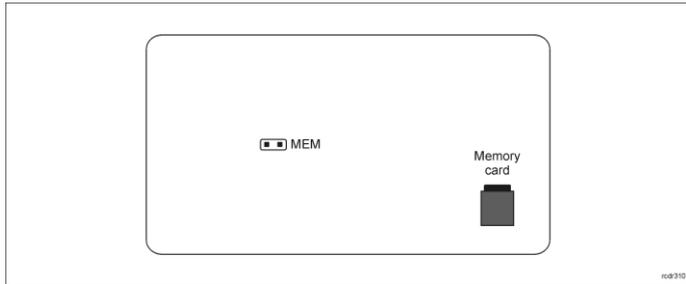

Fig. 3 Service contact and memory card
Note: Remote configuration of device from VISO v2 software is possible only if jumper is placed on MEM contacts (fig. 3). If the jumper is removed, then such configuration is blocked. In case of factory new device, jumper is placed on MEM contacts.
In RACS 5 v2 system, when connected to MC16 controller, the terminal can be installed at site without previous configuration. According to AN006 application note, its address and other settings can be configured from VISO v2 management software and during such configuration the access to its service contacts (fig. 3) is not required.
2. Remove jumper from MEM contacts (fig. 3) if it is placed there.
2. Press and remove memory card from socket (fig. 3).
2. Place jumper on MEM contacts (fig. 3).